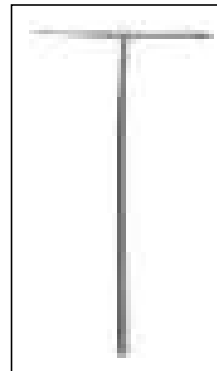

Fig. 1.13A
7. Tool fork cylinder holder - N931 011 0 (Fig. 1.13A)